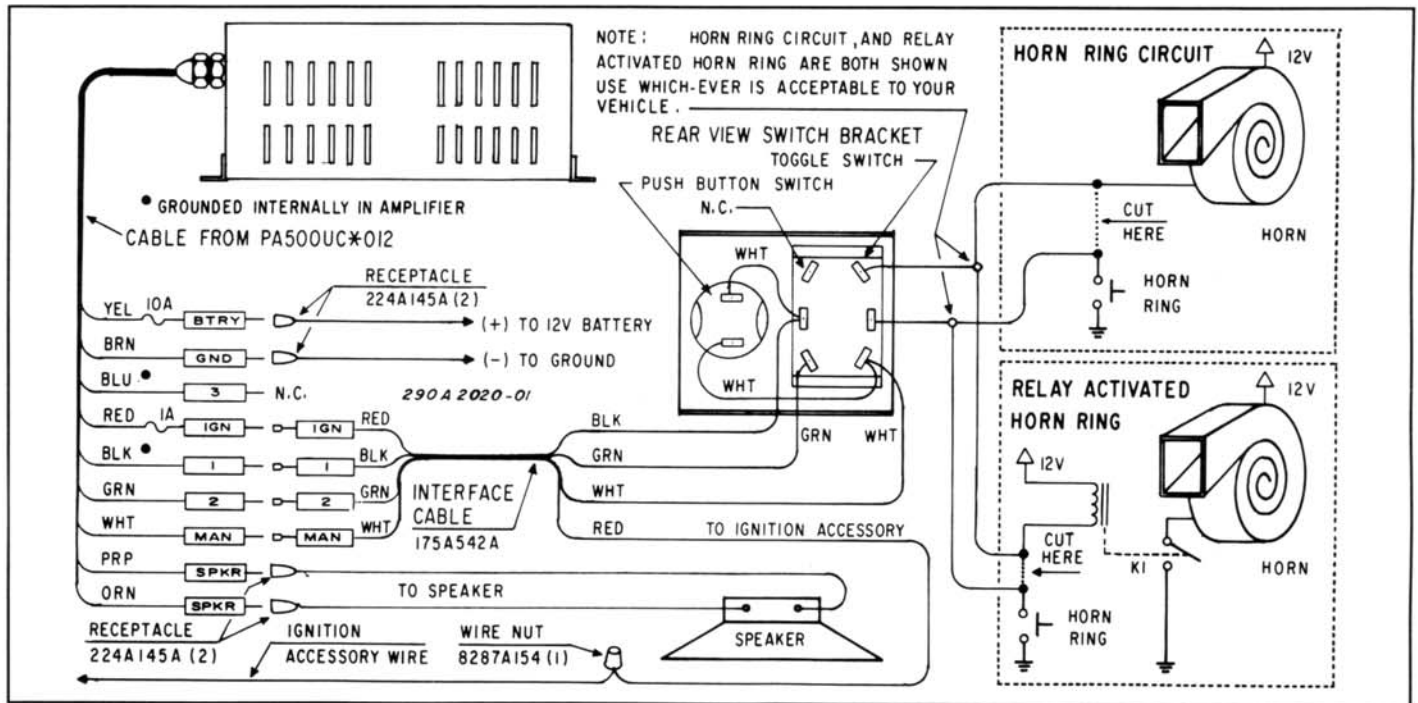

Figure 5. Wiring Diagram.
1. Connect the interface cable leads to the siren leads by mating like colored leads as shown in figure 5. The blue wire from the siren should be cut off and discarded.
2. Connect the other end of the interface cable to the control head switches and ignition accessory wire as shown in figure 5.
To connect the vehicle horn ring circuit so that the horn ring controls the peak-and-hold function in the STBY mode and TAP II Yelp in the WAIL mode, proceed as follows (see figure 5):
G. *Power Connection* (see figure 5).